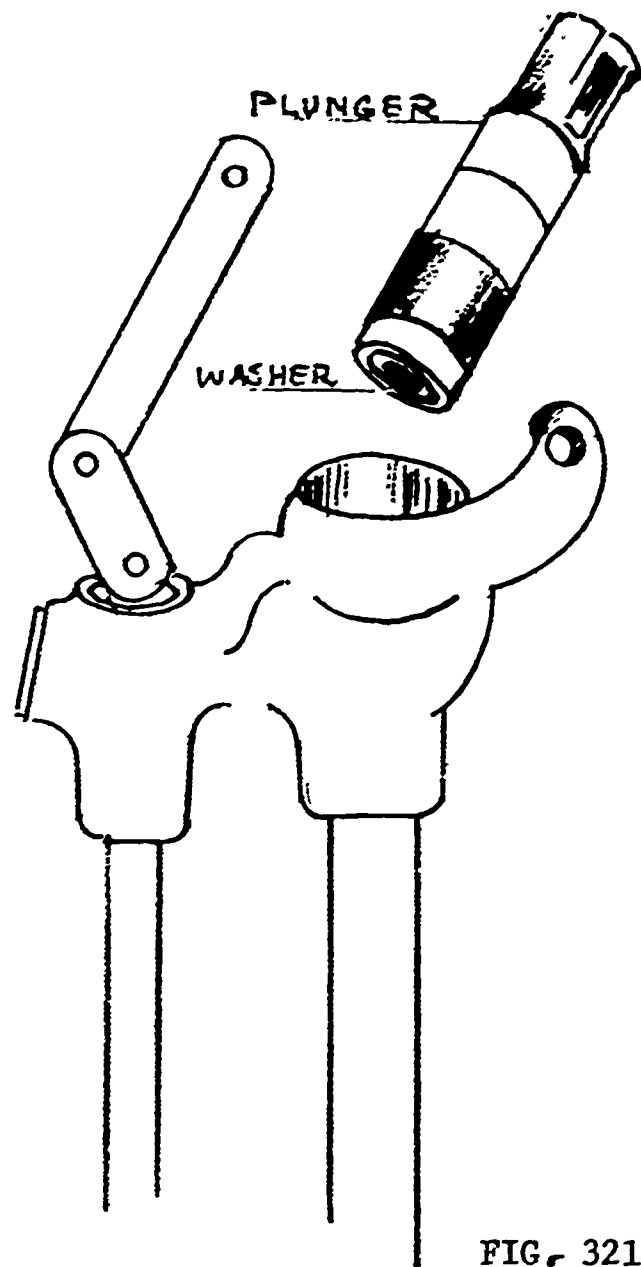

FIG. 321
f. As lever is raised the plunger containing a washer will be pulled up. See figure 321.